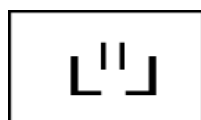

Fig.14
- During water fill process filling icon is displayed. (Fig.14)